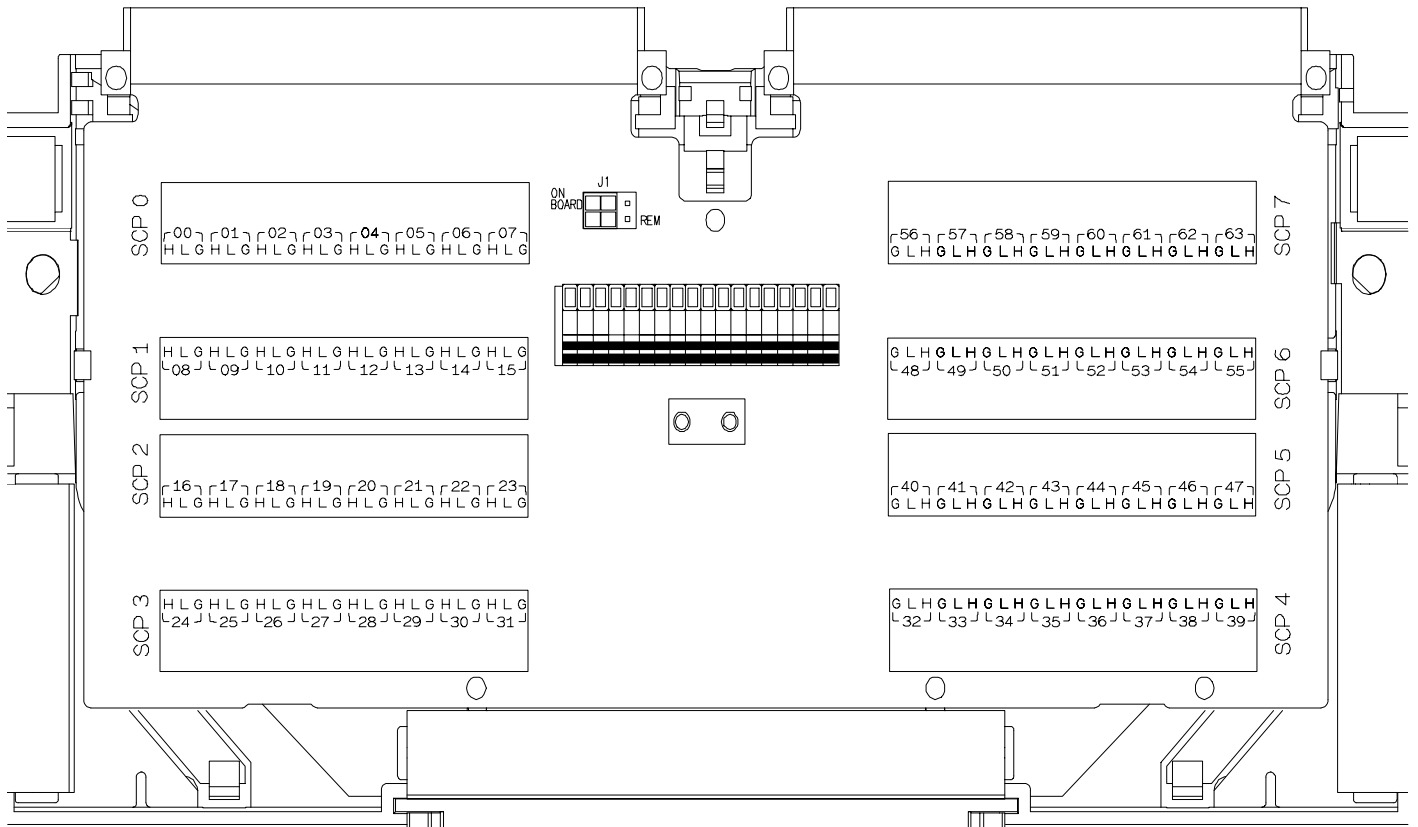

Figure 1 HP E1503 C-Size Terminal Module Connections
- For HP E1413C and above Terminal Modules, use stickers for HP E1503 SCPs. The connections are shown in Figure 1.